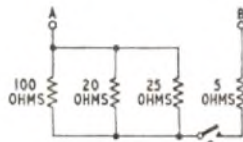

Fig. 1
**Q. 1.** In the circuit shown in Fig. 1, when the switch  $S$  is closed, a battery of internal resistance 2 ohms maintains 12V between the terminals  $AB$ . Calculate: